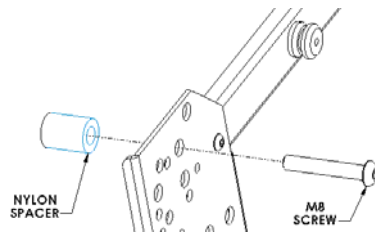
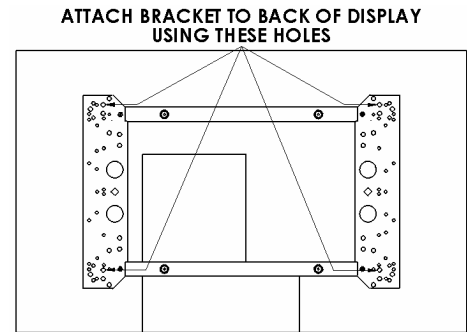

Figure 6
Figure 7
3. Place white Nylon spacers over mounting holes on back of screen. Attach mounting brackets to display using the M8 screws (see Figure 6 & Figure 7). If screen contains a Tuner or Media Box on back of screen, stack black and white spacers over mounting holes and attach using the M8 x 70mm screws.